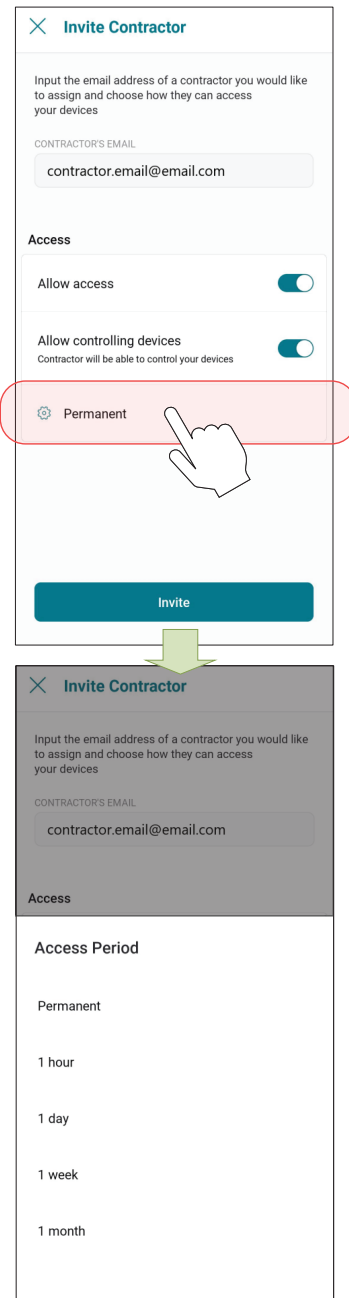

Figure 113. Enter Contractor Email and Access Level
6. Add your contractor’s email and select the access options as needed. See **Figure 113**: